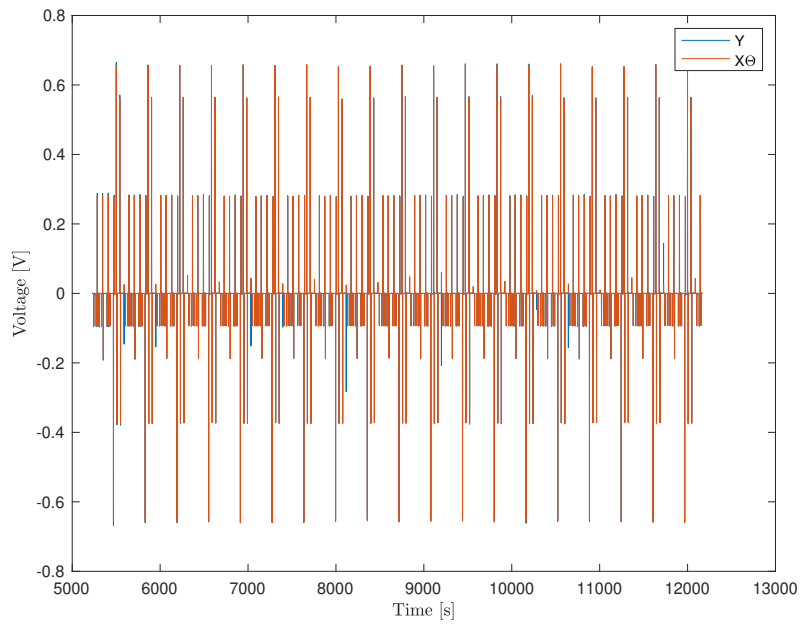

Figure 3.3: Y and $X\Theta$ plotted against each other.
- d) The code to plot the results can be seen in `Exercise_3_5.m`. As seen in Figure 3.3.